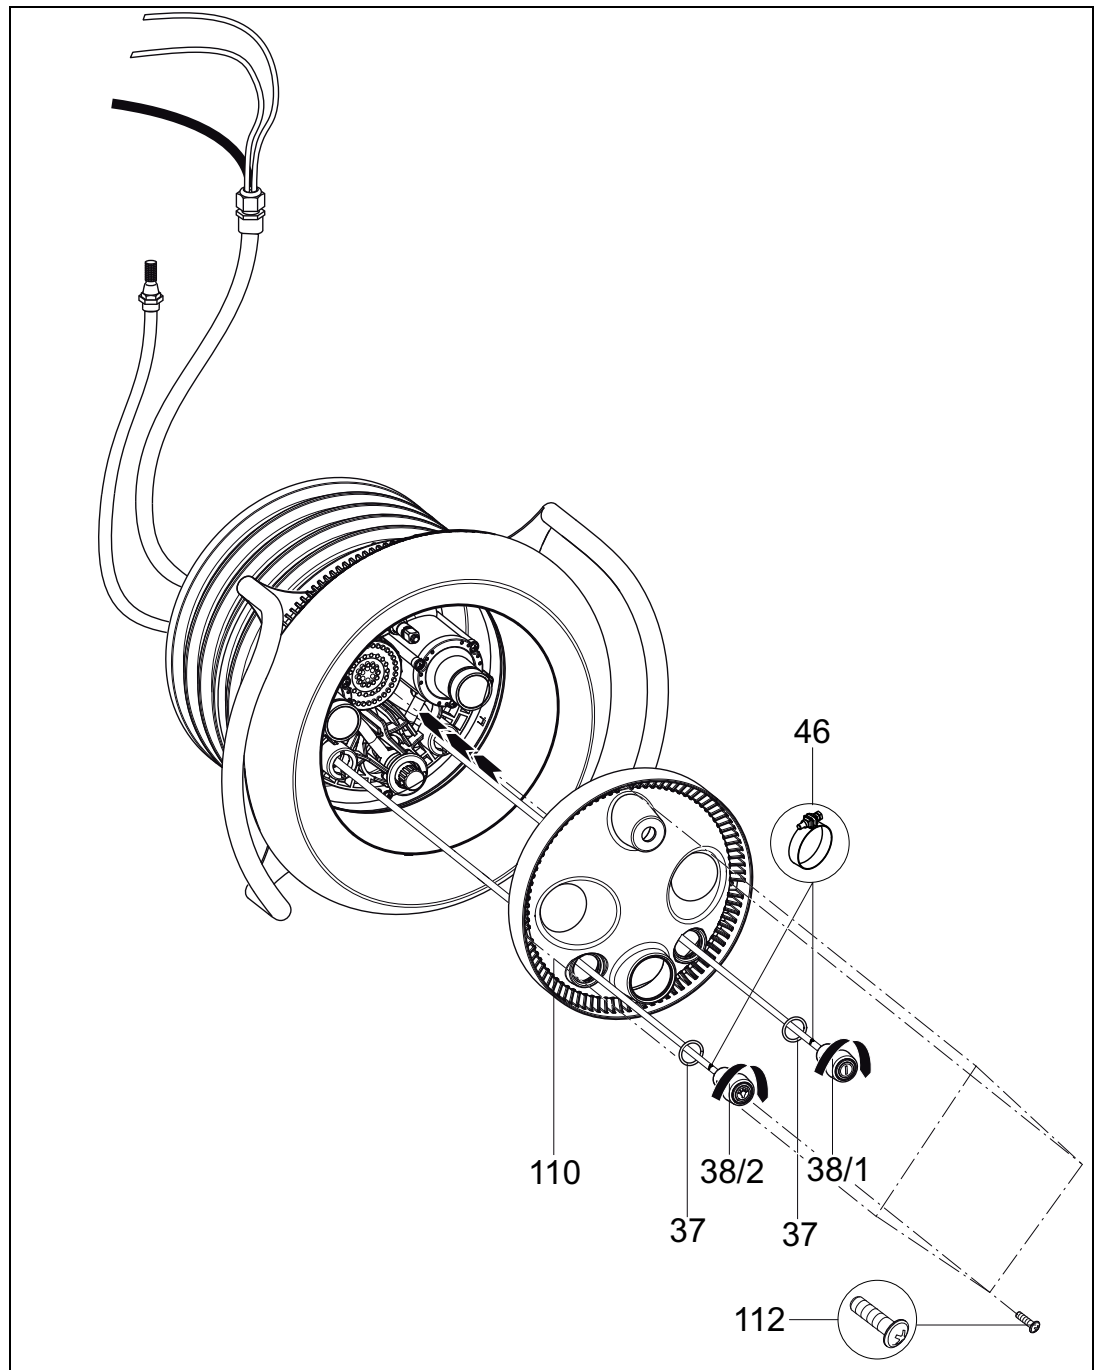

Fig. 12
10. Lead the pneumatic hoses through the lower/outer openings of the light cover **(110)** (light ON/OFF left; pump ON/OFF right). Align the light cover **(110)** central to the nozzle housing **(102.1)** and fasten with four tapping screws **(112)** *(Fig. 12)*.
11. Slide one O-ring **(37)** onto each pneumatic button **(38/1; 38/2)**. Fasten the pneumatic hoses to the corresponding buttons using the hose clamps **(46)**. Insert the two pneumatic buttons through the light cover **(110)** in the nozzle housing and lock by turning it clockwise *(Fig. 12)*.